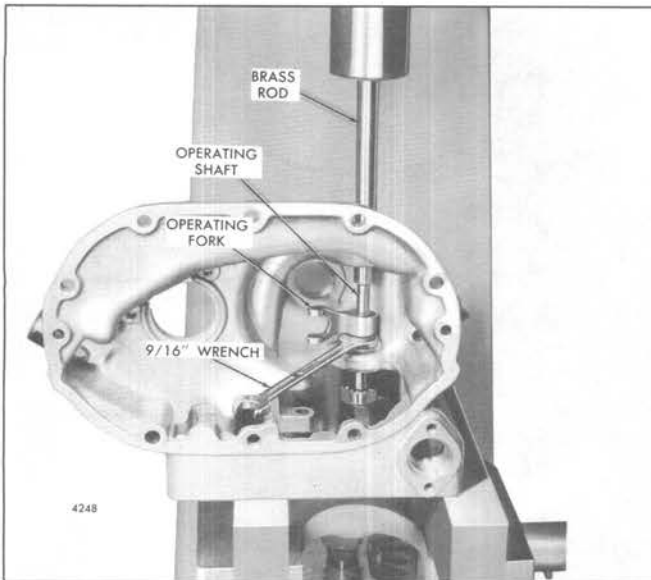

Fig. 14 – Removing Operating Fork, Operating Shaft and Lever Assembly from Governor Housing
- g. With the housing still supported on the bed of the press, place a 9/16" open end wrench under the operating fork as shown in Fig. 14. Place a brass rod on the end of the shaft and press the fork off of the operating shaft. Remove the shaft, operating lever and bearing as an assembly from the housing.